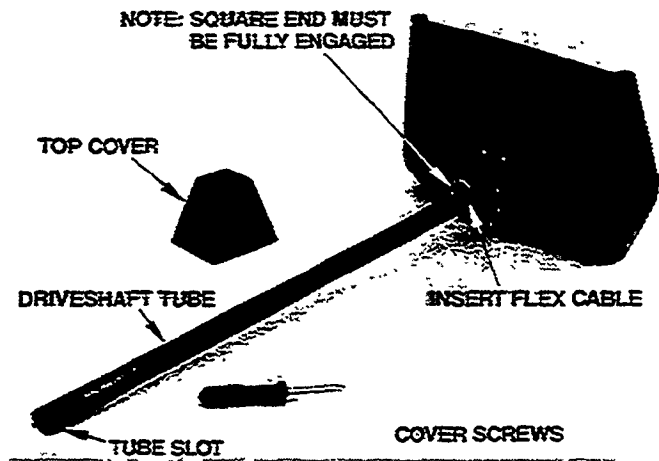

Figure 38
- Using a Phillips screwdriver, remove the two (2) screws holding the top cover (Figure 38). Remove the cover.
- Slide the flex cable **partially** out of the non-slotted end of the tube and insert its square end into the drive gear of the snow thrower. Make certain the squares of the flex cable and the drive gear are engaged before proceeding (Figure 38).